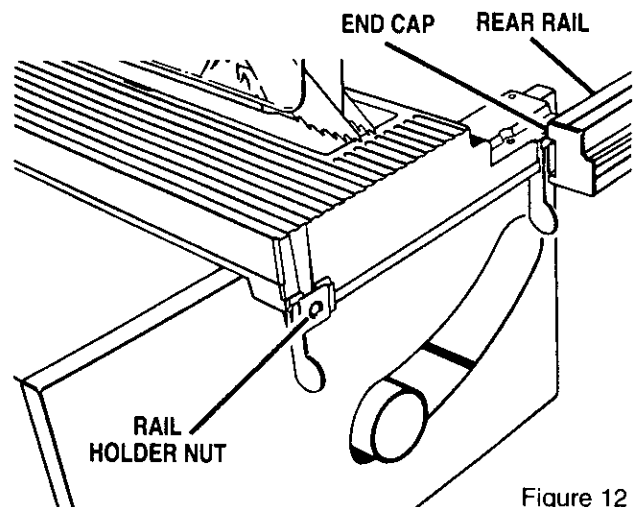

Figure 12
- Mount the rear rail, following the same clamping procedure as shown for the front rail. Orient the rear rail as shown in figure 12.